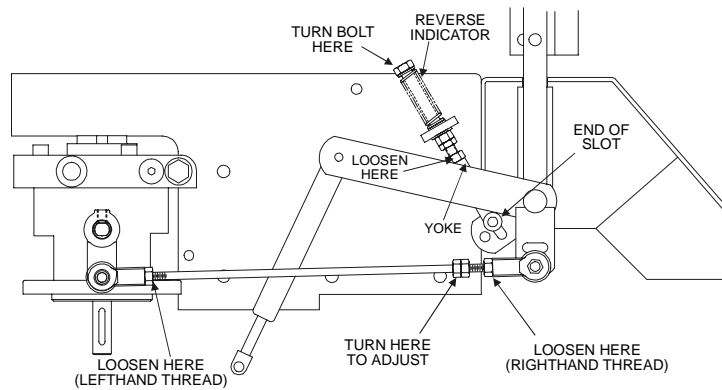

FIGURE 10
shaft) contacts the end of the slot (just beginning to put pressure on spring), See Figure 10.
- e) Loosen lock nuts from the ball joints at each end of the RH pump control linkage (See Figure 10).
- h) Bring the RH motion control lever into the neutral position. Adjust RH pump control rod length by rotating the double nuts on the rod in the appropriate direction until the wheels slightly creep in reverse. (See Figure 10). Move the motion control lever to the reverse position and while applying slight pressure to the lever, allow the reverse indicator spring to bring the levers back to neutral. The wheel must stop turning or slightly creep in reverse. When adjustment is complete, tighten lock nuts onto ball joints.